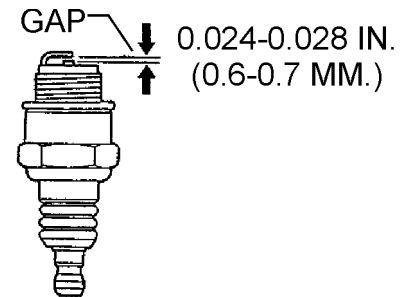

Figure 20. Spark PLug Gap
- Remove and clean the spark plug (Figure 20), then adjust the spark gap to 0.024 ~0.028 inch (0.6~0.7 mm). This unit has electronic ignition, which requires no adjustments.